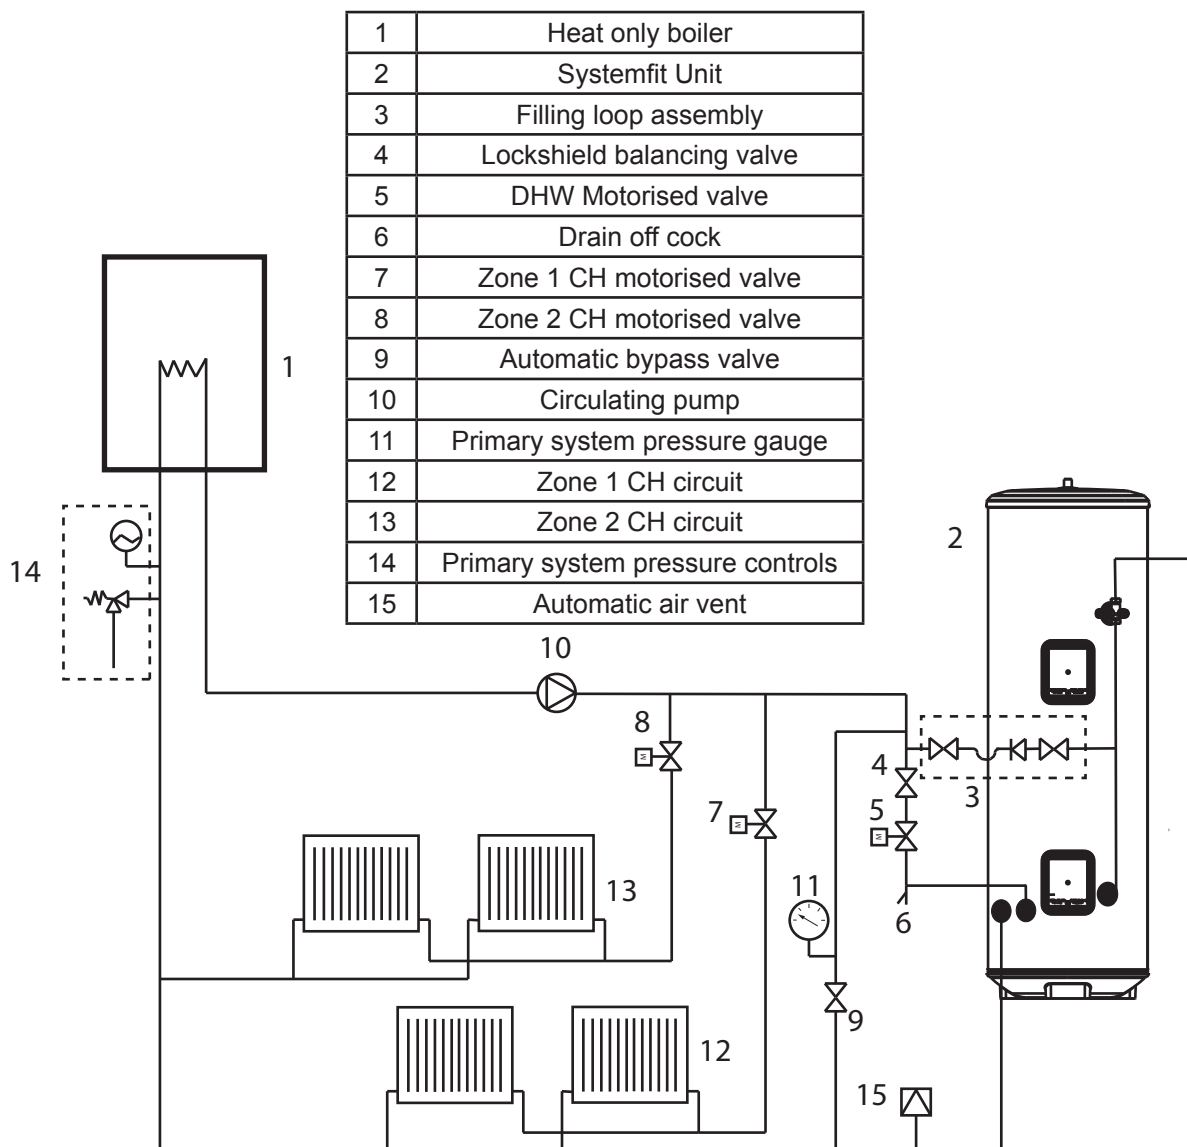

Figure 9: Primary circuit schematic
- ▶ See Fig 9 page 13 for example installation schematic, consult boiler manufacturers installation manual for further guidance. Other primary system valves may be required